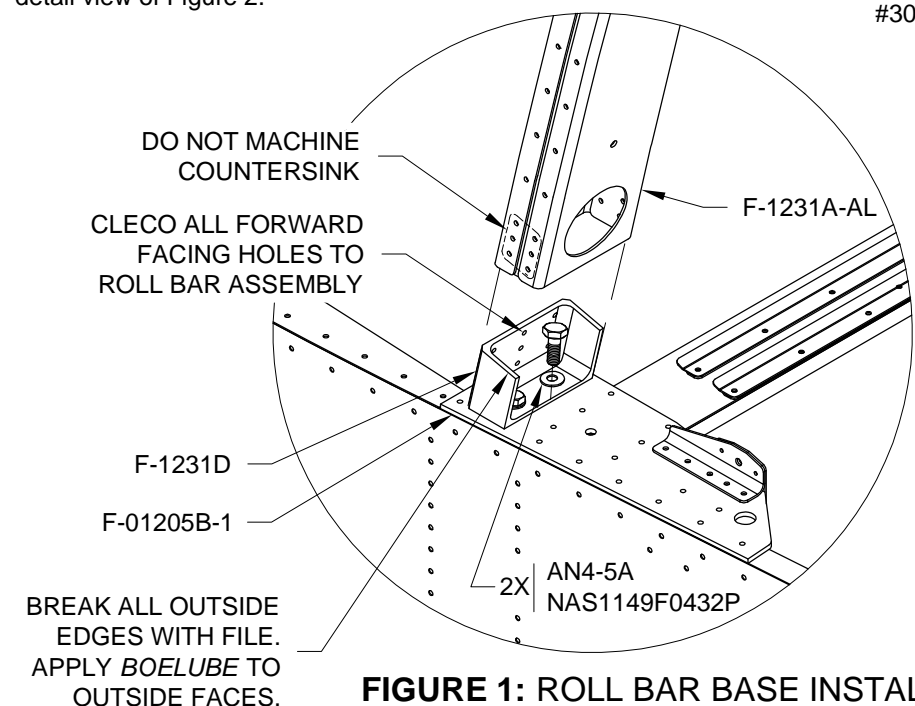

FIGURE 1: ROLL BAR BASE INSTALL LEFT SHOWN, MIRROR FOR RIGHT
Step 8: Except for the holes common to the F-1231D's pointed out in Figure 1, machine countersink the **outer flanges** of the F-1231A-FL, -FR, -AL and -AR for the heads of the rivets that will eventually lay underneath the canopy.